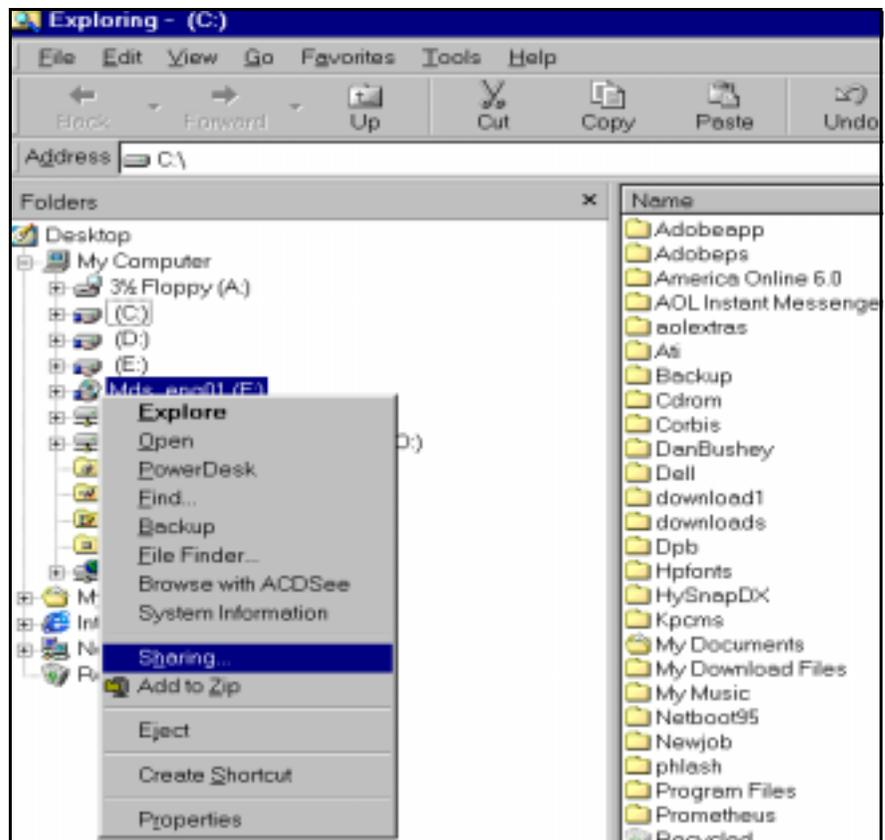

Figure 3-6 Windows Explorer
- At "Exploring" window, right-click on *CDROM* icon and select *Sharing* from drop down menu (see Figure 3-6).